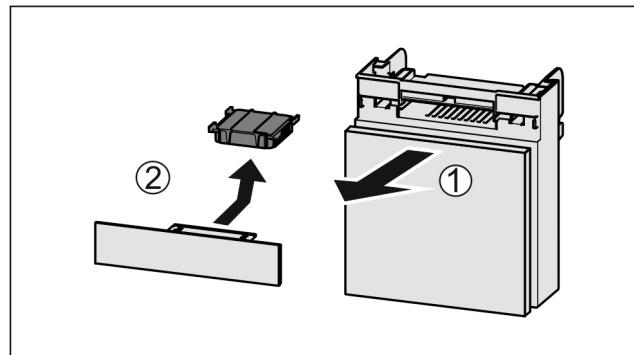

Fig. 140
- Pull out the compartment Fig. 140 (1).
- Remove the carbon filter Fig. 140 (2).